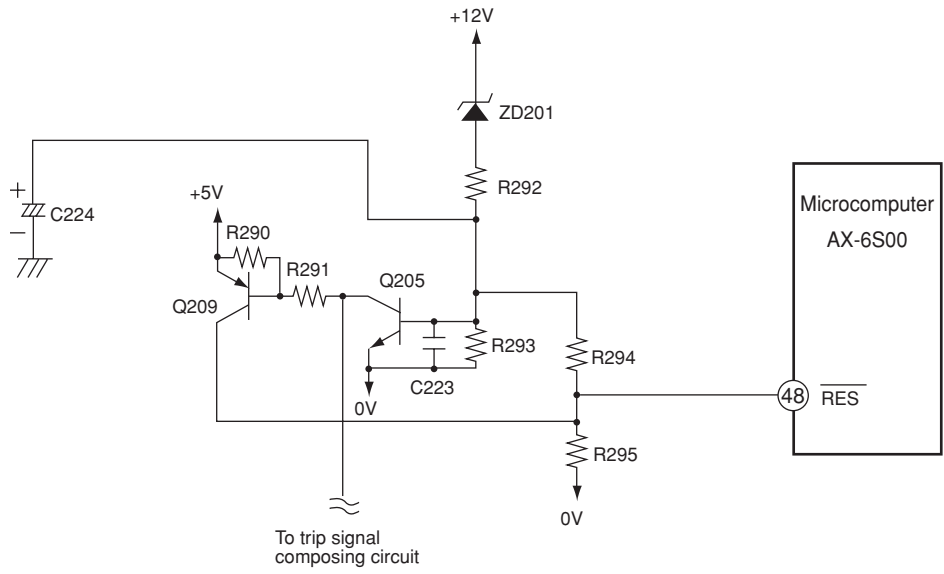
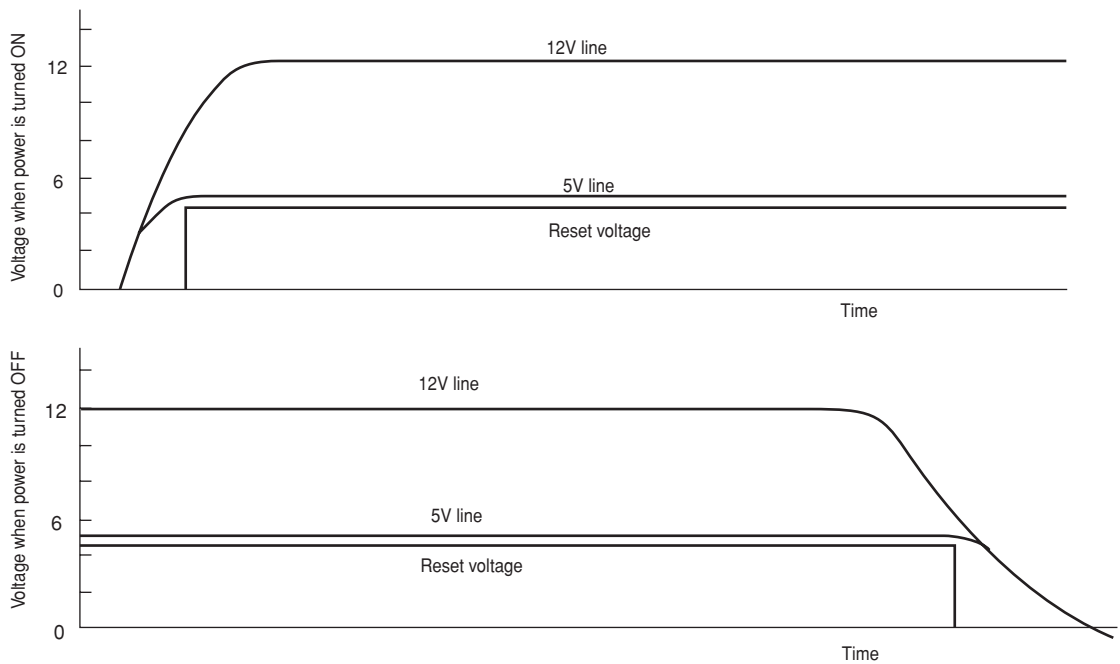

Fig. 9-1
Fig. 9-2
- Fig. 9-1 shows reset circuit, and Fig. 9-2 shows waveforms at each point when power is turned on and off.